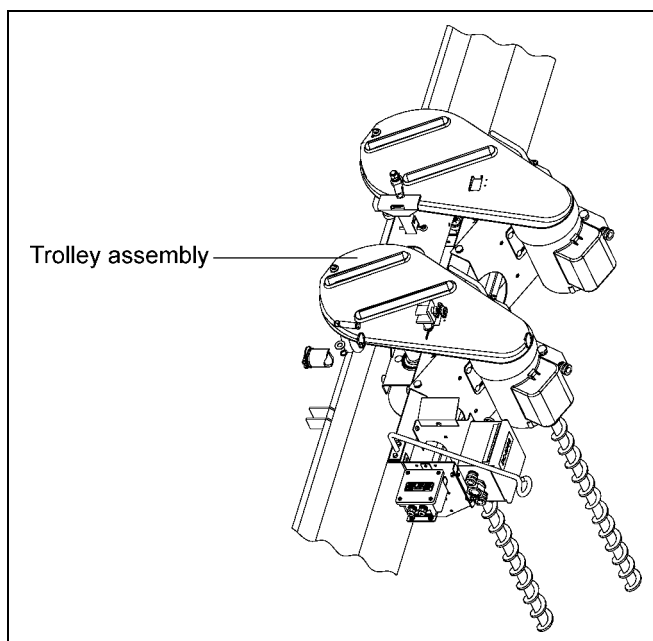

Figure 4O
1. Place trolley on the frame with the junction box toward the center of the bin. Double and triple auger trolleys are placed on the frame rails from the inboard end. (See Figure 4O.)